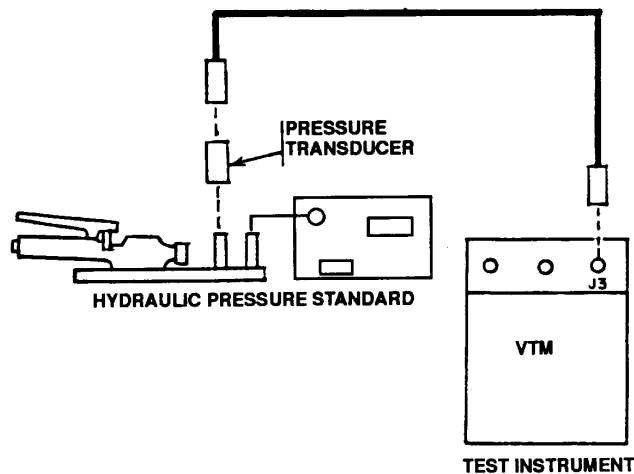

Figure 5. Pressure (1000 psi) - equipment setup.
(1) Connect equipment as shown in figure 5, using 1000 psi transducer TK17 and adapter.